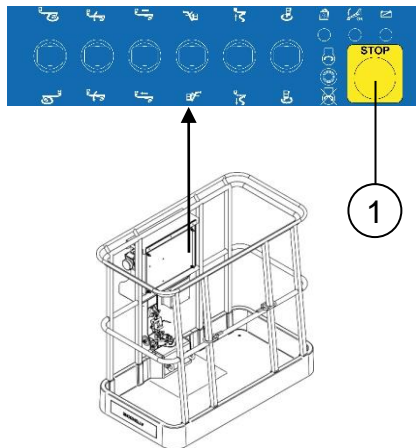
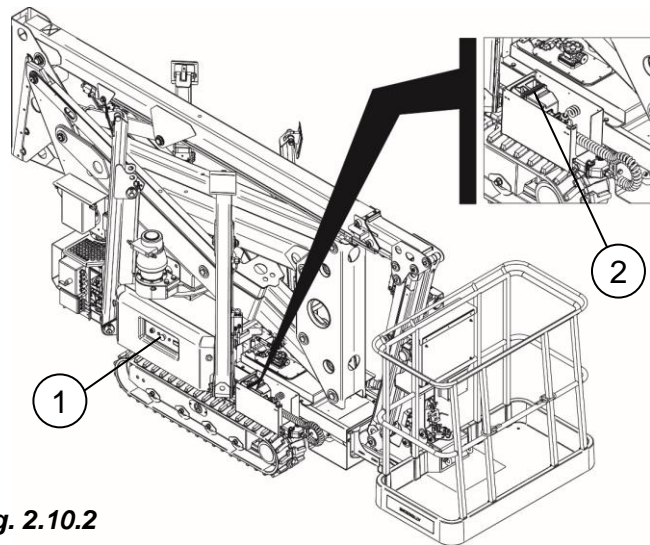

fig. 2.10.1
fig. 2.10.2
Red emergency button with yellow background positioned one (*pos. 1 fig. 2.10.1*) on the platform control panel, one (*pos. 1 fig. 2.10.2*) on the ground control board and one (*pos. 2 fig. 2.10.2*) on the push button traction panel. By pressing one of the two buttons all manoeuvres of the elevating work platform are deactivated and the vehicle engine switches off. To re-activate machine functionality, turn the button in a clockwise direction.